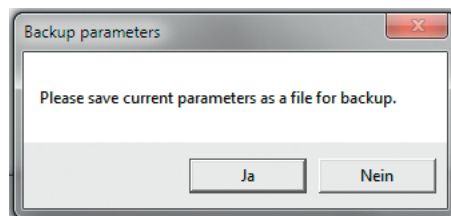

Fig. 6.66 "Upgrade/Downgrade firmware" – "Backup parameters"
- ▶ “Lightening” opens a new **“Backup parameters”** message window to produce a backup copy of the device parameters (see Fig. 6.66).